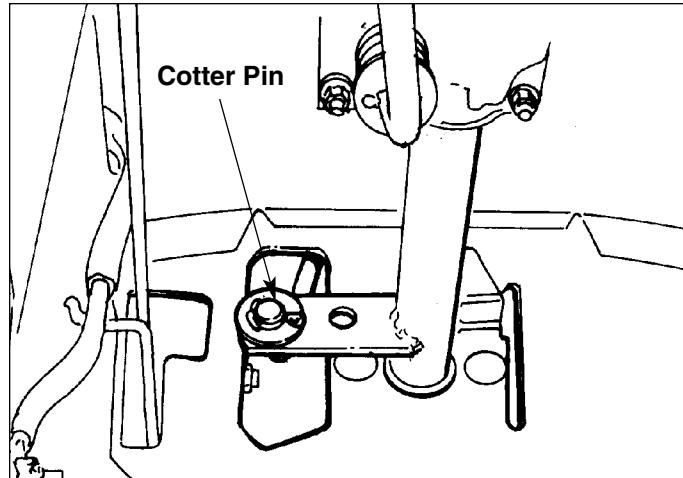

Figure B-15. Disconnect Shift Rod Linkage From Shift Lever Assembly Arm
5. Remove the cotter pin connecting the shift lever assembly arm to the front transmission shift rod linkage (Figure B-15).